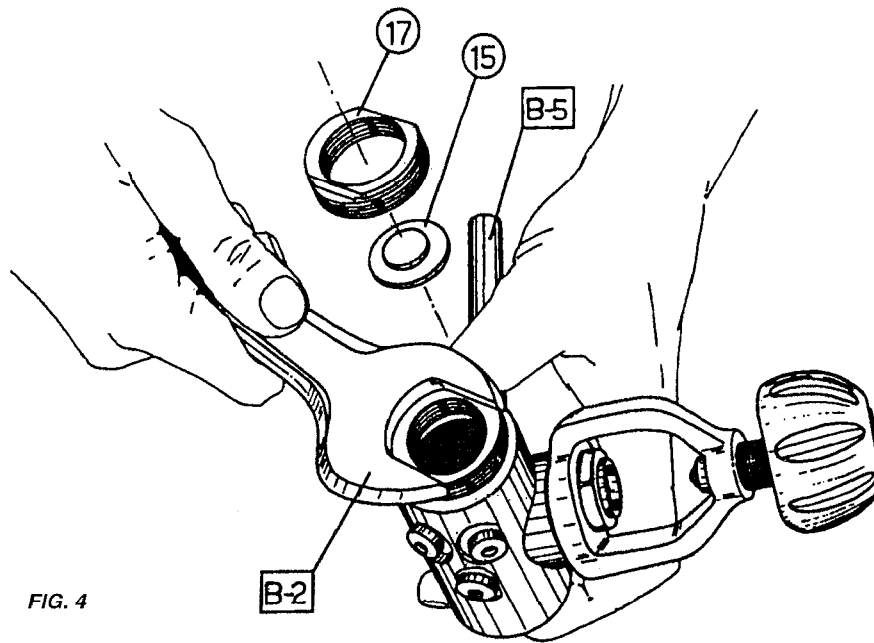

FIG. 4
11. Unscrew the retaining nut (17) with the wrench (B-2), and remove the spring base plate (15). (Fig. 4)